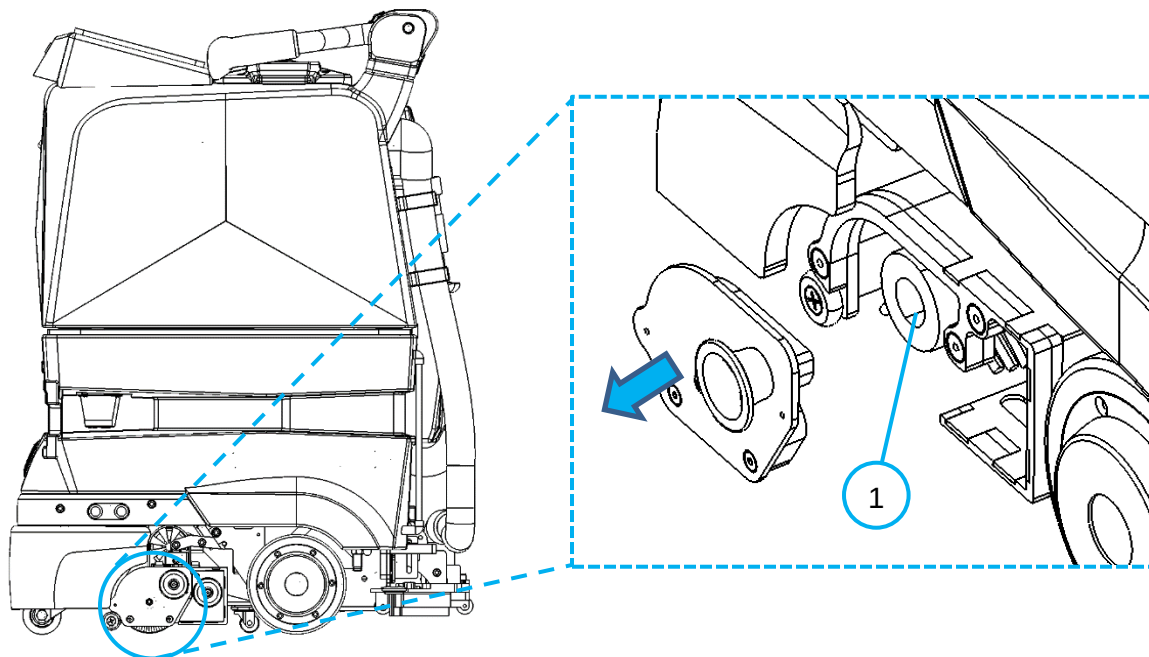

Fig. 1
1. Pull the brush cover knob to release it from the magnetic catch (Fig. 1).
2. Pull out the brush (Fig. 1 – 1) and clean under a stream of running water to remove impurities from the bristles.